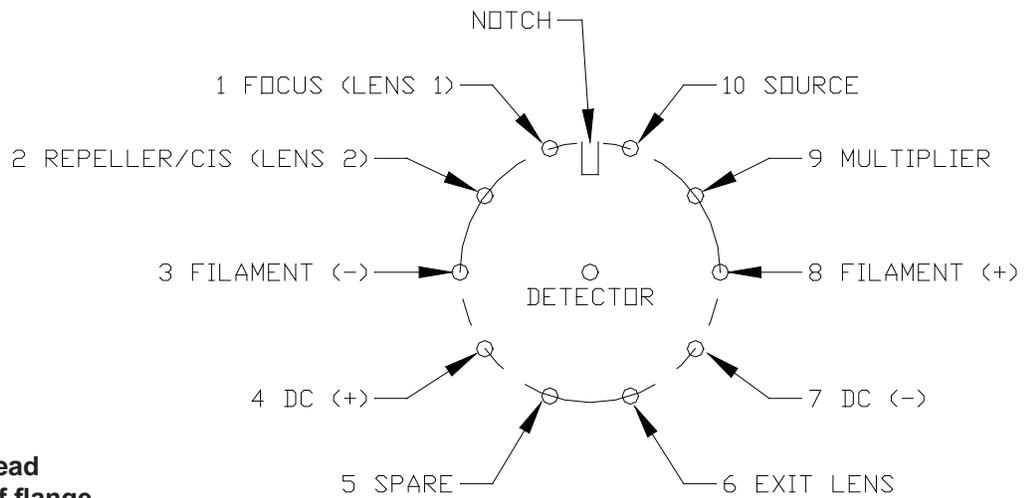

Figure 4-4.
- The check should be performed on the pins on the atmosphere side of the unit (Figure 4-4).